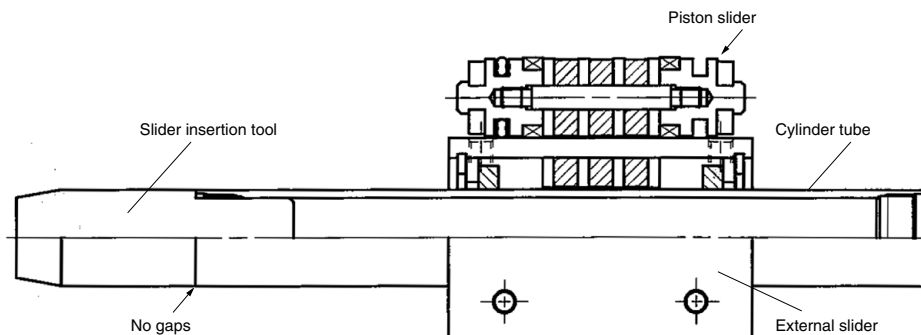

Fig. 5 Correct positioning (the centers of the sliders are aligned) ($\phi 10$)
- (1) Apply grease to the inner surface of the cylinder tube.
- (2) Place the piston slider on top of the external slider (for bore sizes $\phi 6$ and $\phi 10$). For bore sizes other than $\phi 6$ and $\phi 10$, the sliders have no insertion direction.
- (3) If the piston slider will not couple at the center of the external slider as in Fig. 6, rotate the piston slider 180° so it is positioned as in Fig. 5. If incorrectly positioned sliders are inserted into the cylinder tube as is, they will not magnetically couple as required.
- (4) Insert the slider insertion tool into the cylinder tube.
- (5) Confirm that the sliders are in the same state as in Fig. 5, and insert the greased external slider into the cylinder tube.
- (6) Remove the slider insertion tool from the cylinder tube.
- (7) Insert the greased piston slider into the cylinder tube.
- (8) Manually move the external slider back and forth multiple times to spread the grease within the cylinder tube.
- (9) Move the external slider to the stroke end, and lightly wipe off the excess grease adhering to the end surface of the piston slider.
- (10) After wiping off the grease adhering to the threads of the cylinder tube with alcohol, etc., apply adhesive (Loctite No. 542 (red)) to the cylinder tube or head cover threads, and then tighten the head cover.